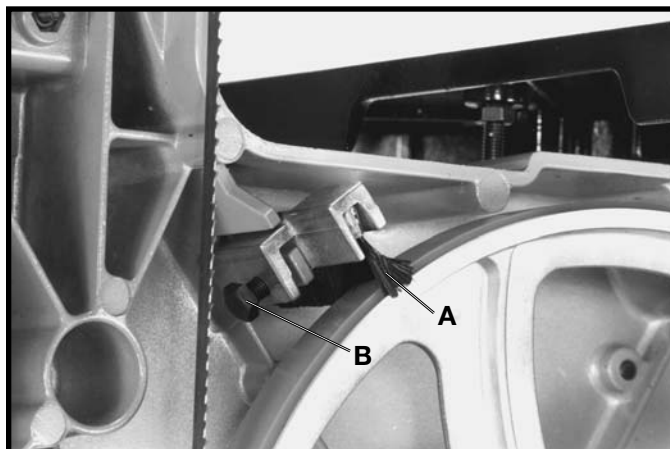

Fig. 38
A tire brush (A) Fig. 38, is provided on the lower wheel to keep the blade and tires clean and free of any build-up of chips. Adjustment of the brush (A) can be made by loosening the mounting hardware (B) and adjusting the brush (A) accordingly.